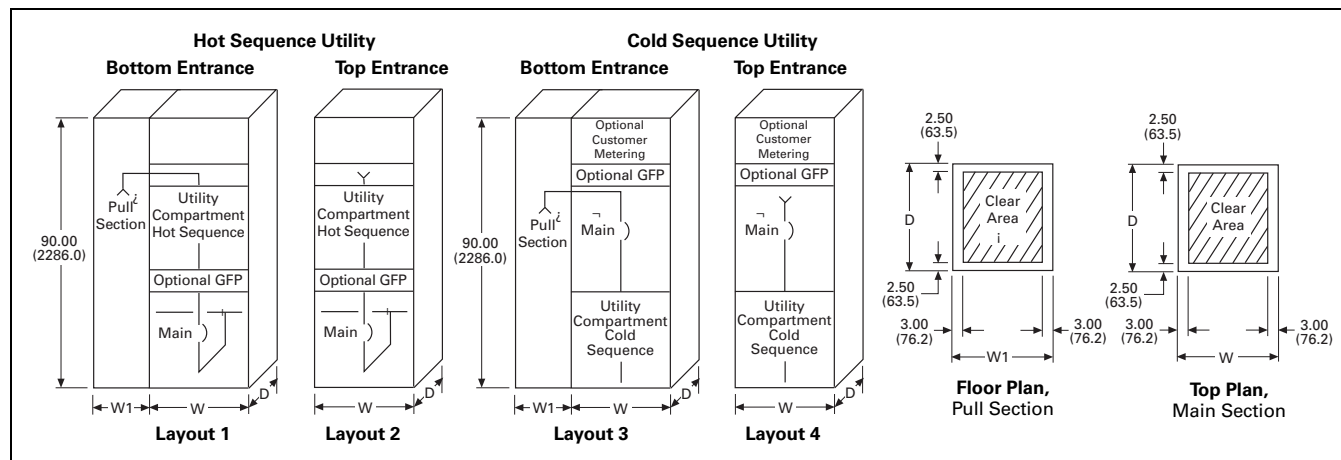

Figure 21.1-4. NEMA Utility Compartment Layouts—Dimensions in Inches (mm)
Table 21.1-7. Main Device Structure Size for Figure 21.1-4 Layouts
**Note:** Dimensions for Figure 21.1-4.